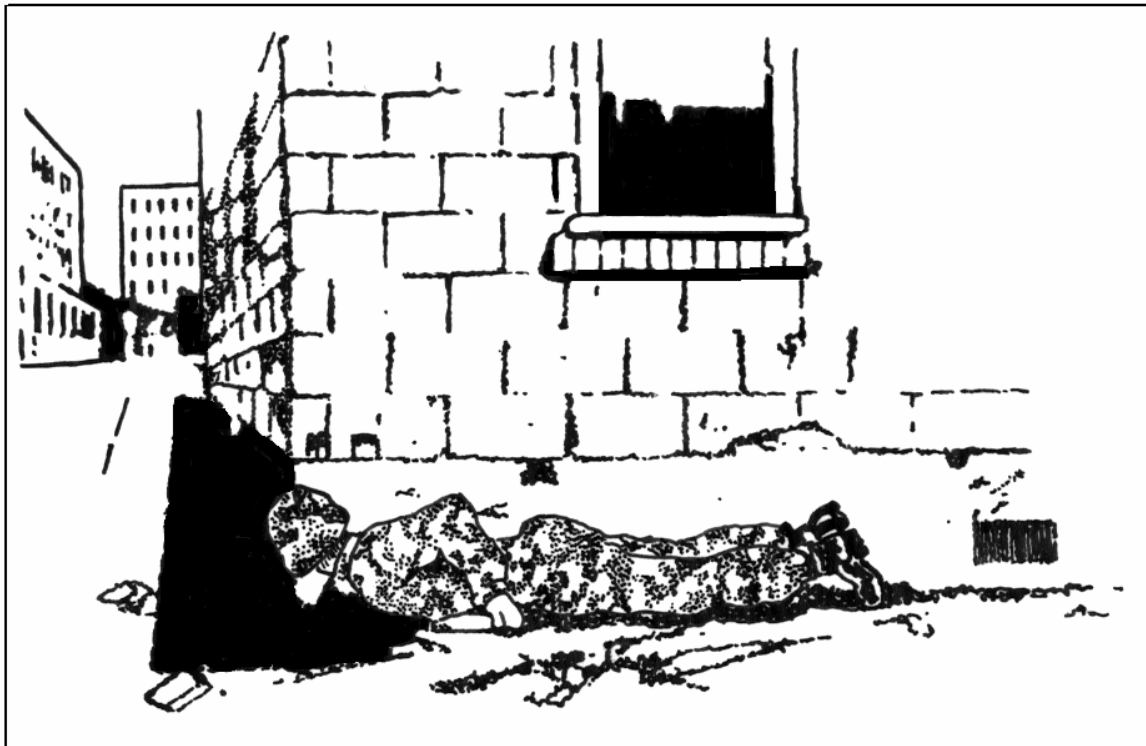

Figure 1
- b. Expose the head slowly at ground level so that it appears to be a shadow. Expose the head only enough to observe around the corner (Figure 1).